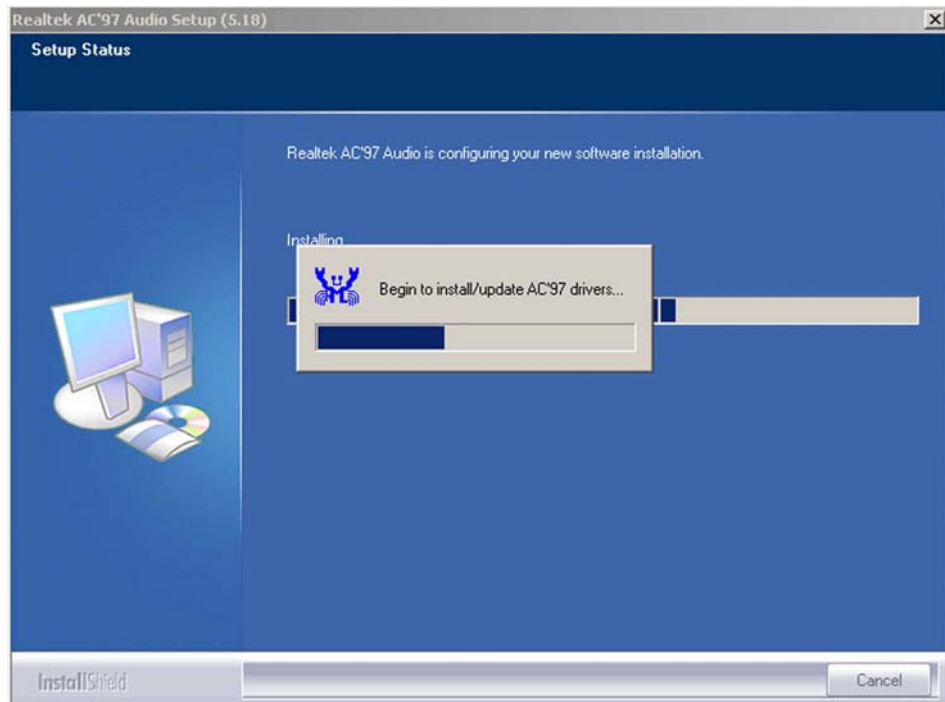

Figure 6-17: Audio Driver Installation Begins
Step 8: The installation of the driver begins. See **Figure 6-17**.